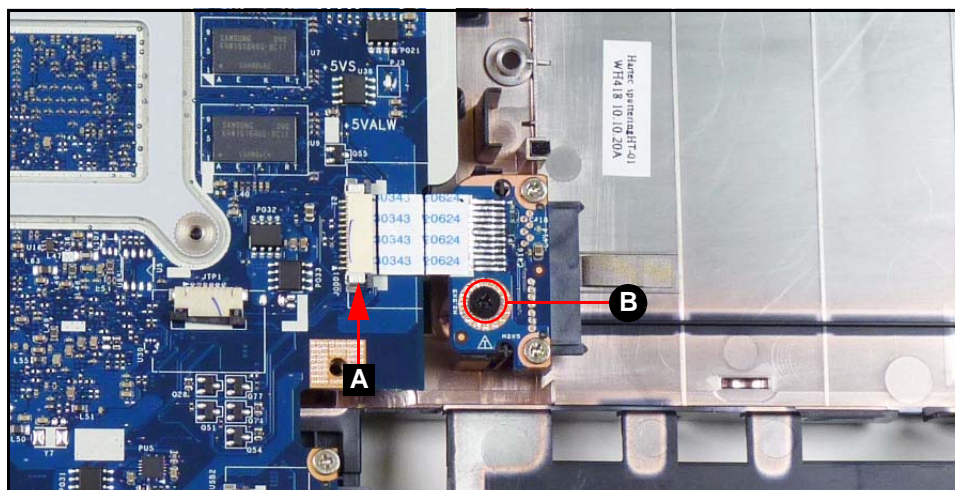

Figure 3-26. ODD Board
2. Disconnect ODD board FFC from mainboard connector (A). (Figure 3-26)
3. Remove screw (B) from lower cover. (Figure 3-26)
2. Install and secure screw (B) to lower cover. (Figure 3-26)
3. Connect ODD board FFC to mainboard connector (A). (Figure 3-26)